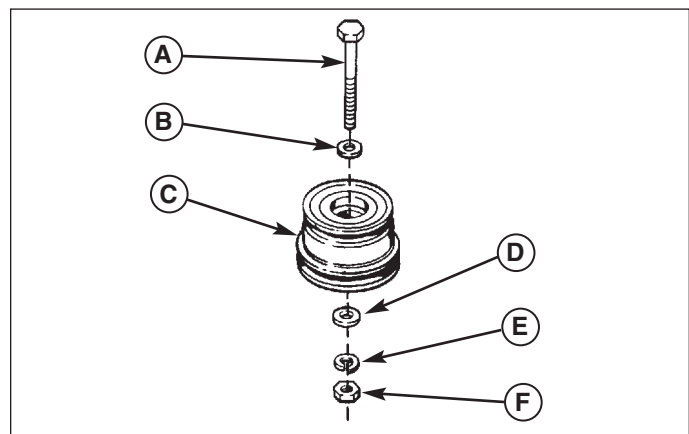
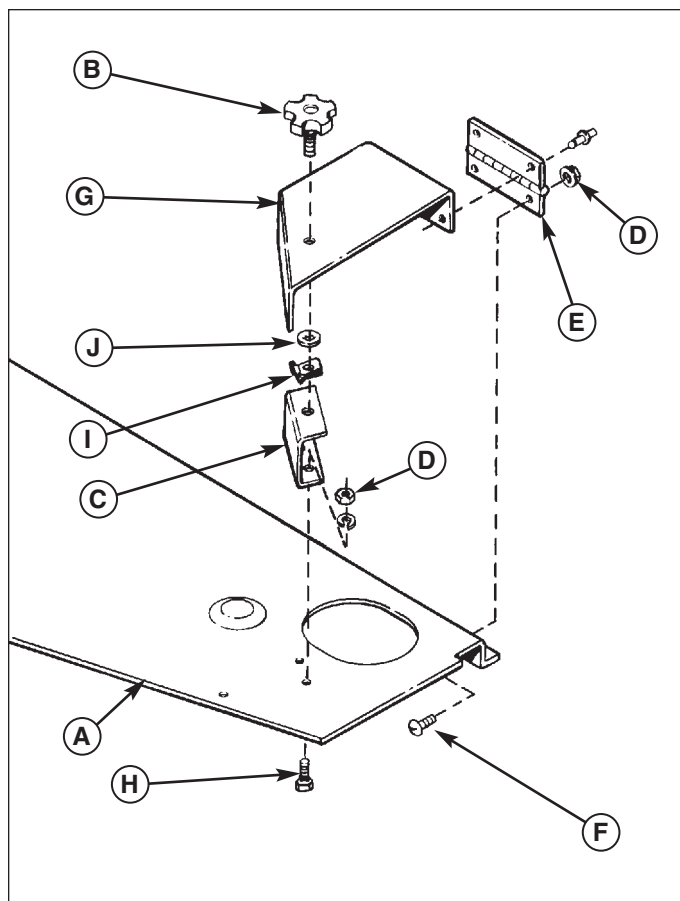

Figure 3. Install New Pulley
Figure 4. Assemble the New Cover
3. See Figure 3. Insert the 3-1/4" capscrew (A) through the thick washer (B), pulley assembly (C), and spacer (D). Mount this assembly to the deck using the same hole that the original idler pulley used. Secure with a lockwasher (E) and hex nut (F) installed under the deck. Make sure that large diameter pulley is on bottom and that the spacer is between the mower deck and large pulley. Be sure idler pulley rotates freely.
1. Assemble the pulley cover (G, Figure 4) to the new belt cover. Using 10-32 x 3/8 machine screws and #10-32 nut-washer assemblies. The screws must be inserted from inside the belt cover so that nuts (D) are outside.
2. Secure knob (B) using push nut (J).
3. Install the bracket (C) with two 1/4-20 x 3/4 cap-screws, 1/4 lockwashers, and 1/4 nuts (D). Install screws from bottom.
4. Be sure a 5/16 pal nut clip (I) is in place. When the pulley cover is closed, the knob (B) will thread into pal nut (I).
5. Install the new belt cover (A, Figure 3) using the original self-tapping screws. Be sure belt cover does not contact pulleys.